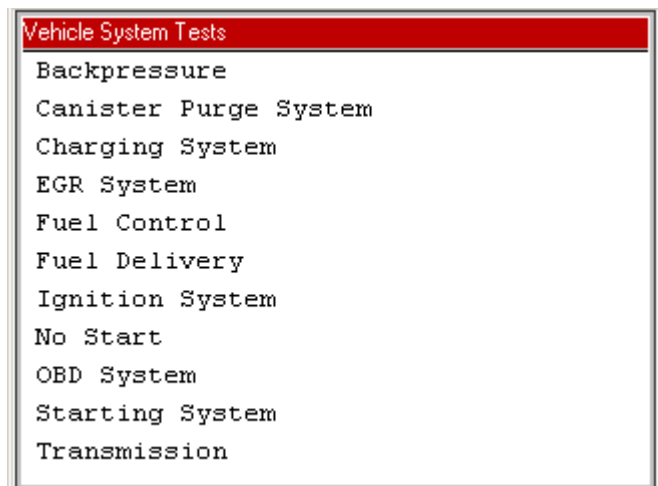

Figure 12.2: Vehicle System Tests Menu Screen
- 2 From the main menu screen, select **Vehicle System Tests**. This displays a list of vehicle systems on the Vehicle System Tests menu screen (Figure 12.2).